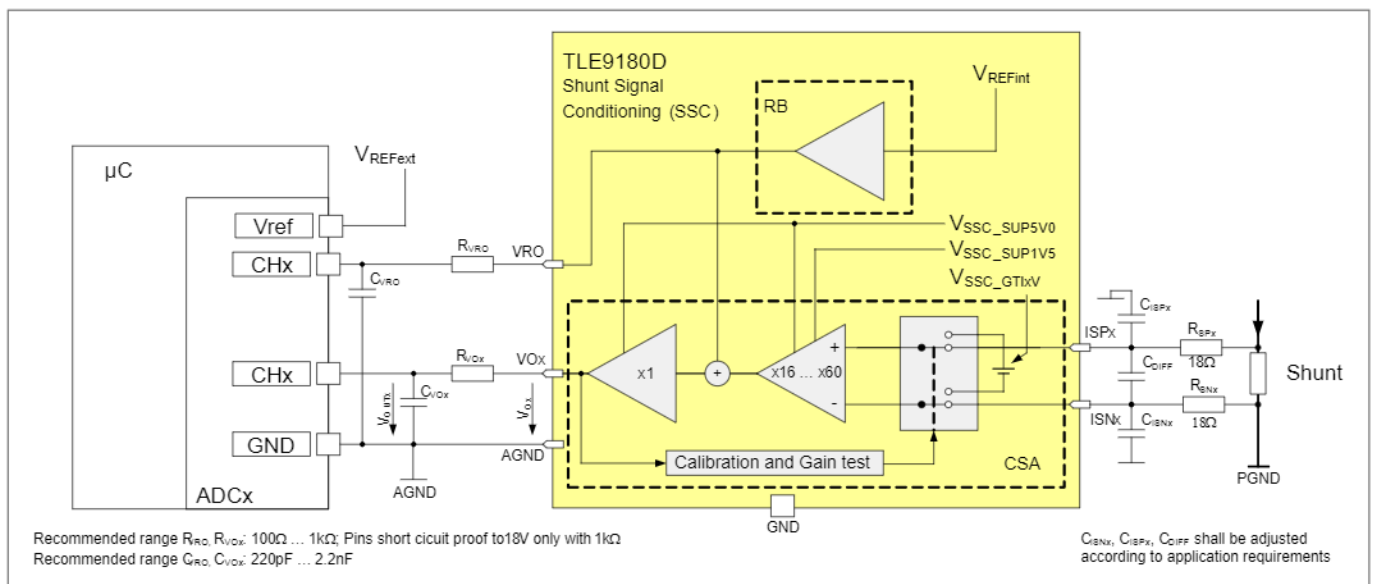

Figure 5 Simplified Block- and Application Diagram of the Shunt Signal Conditioning
The shunt signal conditioning (SSC) incorporates 3 precise current sense amplifiers (CSAs) to amplify the voltage drop at the shunt resistors caused by the motor currents and a voltage reference output buffer (RB), see Figure 5.